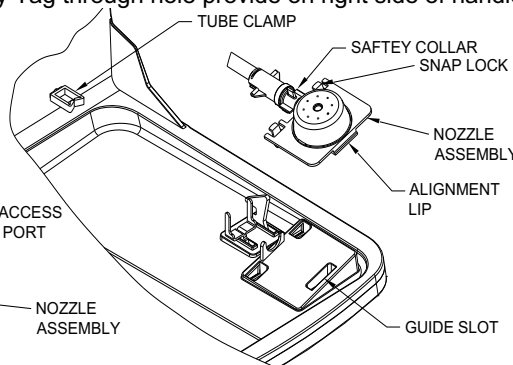

Figure 12
- C. After securing Cartridge tube with Tube Clamp, Tilt Nozzle Assembly to insert alignment lip into guide slot on Tray Assembly. (Ref Figure 12)